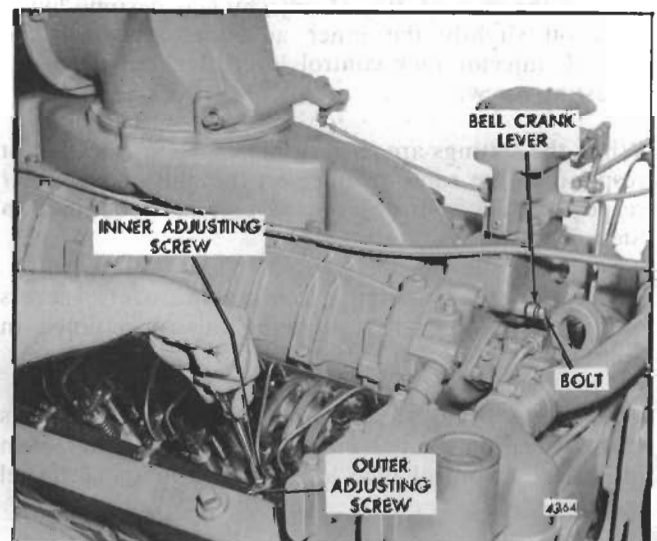

Fig. 2 - Positioning No. 1R Injector Rack Control Lever
5. Place the bolt (removed from the lower end of the vertical link) through the bell crank and into the recessed hole in the drive housing (Fig. 2).
6. **Adjust the No. 1R injector rack** by turning the inner adjusting screw down until it bottoms on the control tube (Fig. 2). Turn down the outer adjusting screw until it also bottoms on the control tube. Then